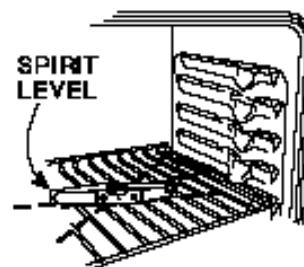

Fig. 17
- c. Put a spirit level or a glass measuring cup partially filled with water on one of the oven racks. See Fig. 17.